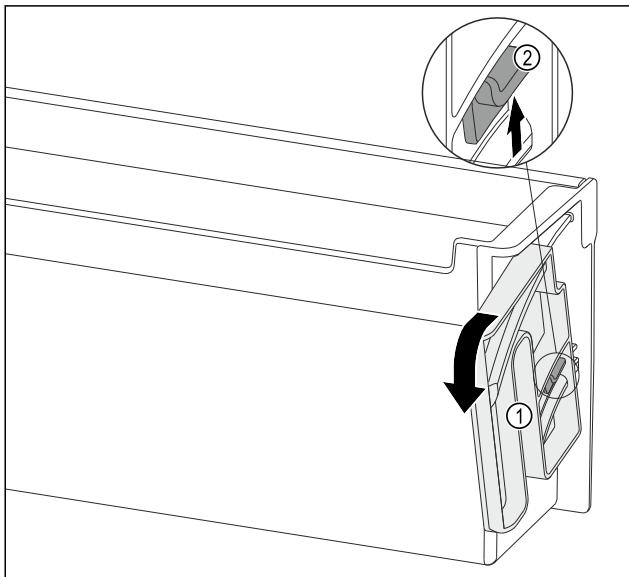

Fig. 145
- ▶ Turn the turning unit Fig. 145 (1) in the specified direction to the end stop.
- ▶ Press the tab Fig. 145 (2) up and remove the turning unit Fig. 145 (1).